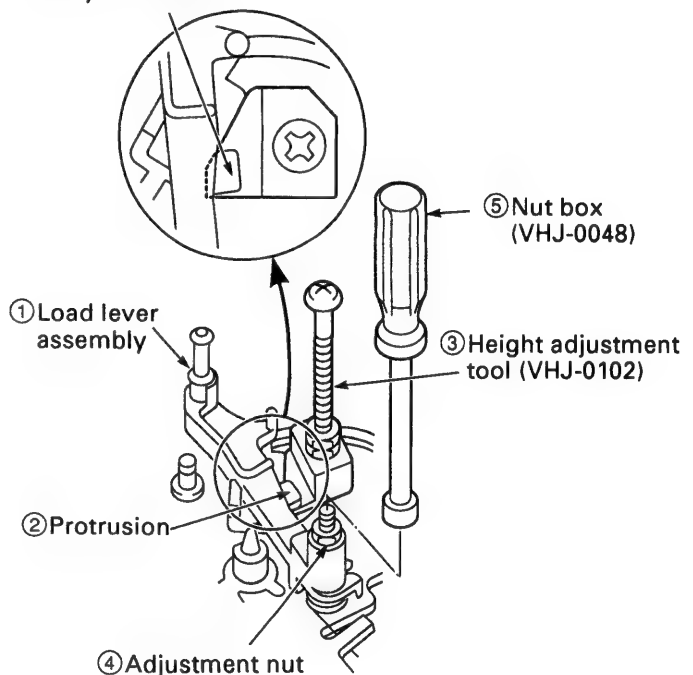

Fig.4-3-2
ADJUSTMENT (See Fig.4-3-2)
2. Position the height adjustment tool (VHJ-0102)③ under the full surface of the protrusion② on the load lever assembly①, as shown in Fig.4-3-2.
3. Using your fingers, gently screw the adjustment nut④ clockwise into the nut box (VHJ-0048)⑤ until the protrusion② of the load lever assembly① touches the height adjustment tool (VHJ-0102)③ and the screw starts to feel tight. Next, loosen the adjustment nut④ by 270° anticlockwise.